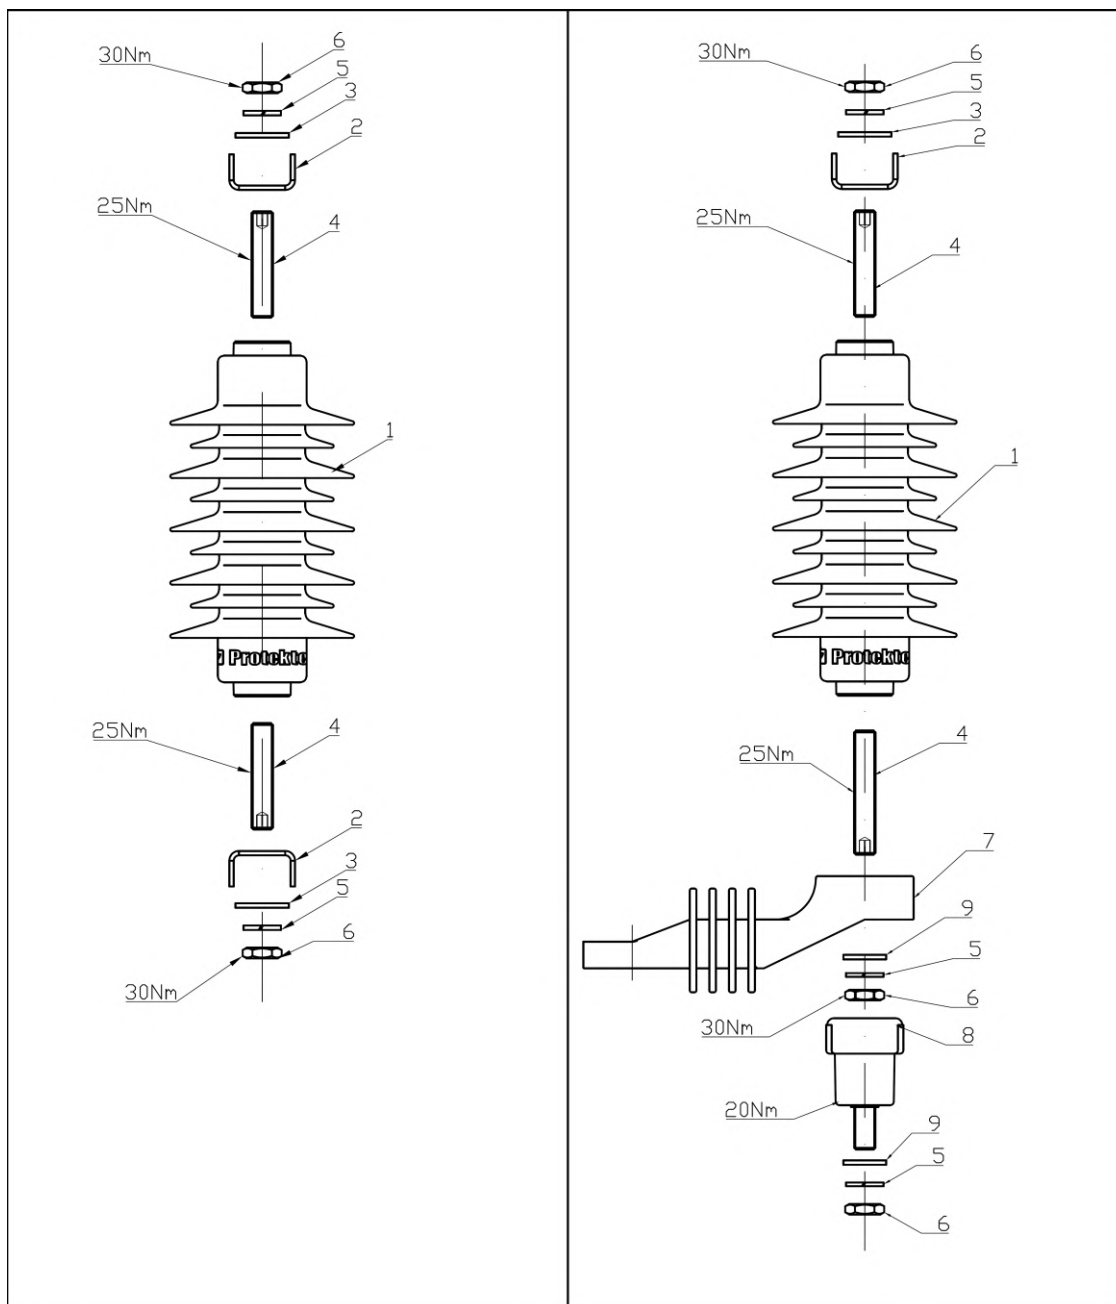

Fig. 5. Surge arrester with line terminal and earth terminal Fig. 6. Surge arrester with insulating bracket with disconnector
Installation of the earth terminal (Fig.5): Insert the pos. 4 screw into the bottom electrode of the surge arrester, apply pos.2, before applying the terminal washer pos. 3 insert the wire or lug of the cable connecting the surge arrester with the earthed structure, apply the spring washer pos. 5 and tighten with the nut pos. 6 with the given moment. All other versions of earthing terminals, vertical support, horizontal support, Z-bracket, should be assembled in the same way as
Mounting method of the line terminal (fig.5): into the upper electrode of the surge arrester screw in the screw pos. 4 with the indicated moment, apply terminal pos. 2, before applying the terminal washer pos. 3 insert the wire or lug of the cable connecting the surge arrester with the protected object or line, apply the spring washer pos. 5 and tighten with the nut pos. 6 with the given moment. All other versions of line terminals should be made in the same way as described above, taking into account minor differences resulting from completion. The range of tightening moments of individual elements is identical to that of the attached figure 5.